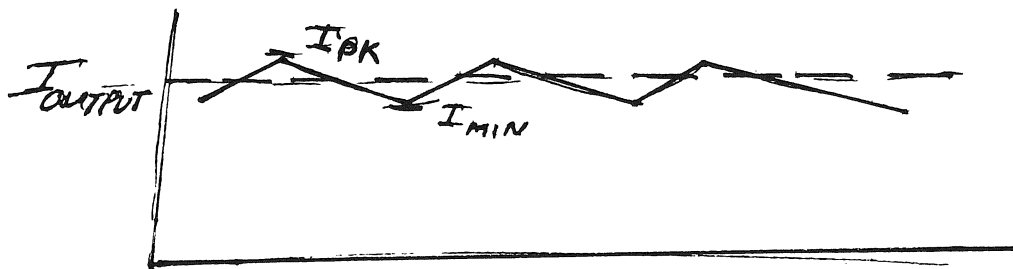

FIGURE 3-25
Collector current in Q(C) has the same form as that described in the previous section (see Figure 3-25).